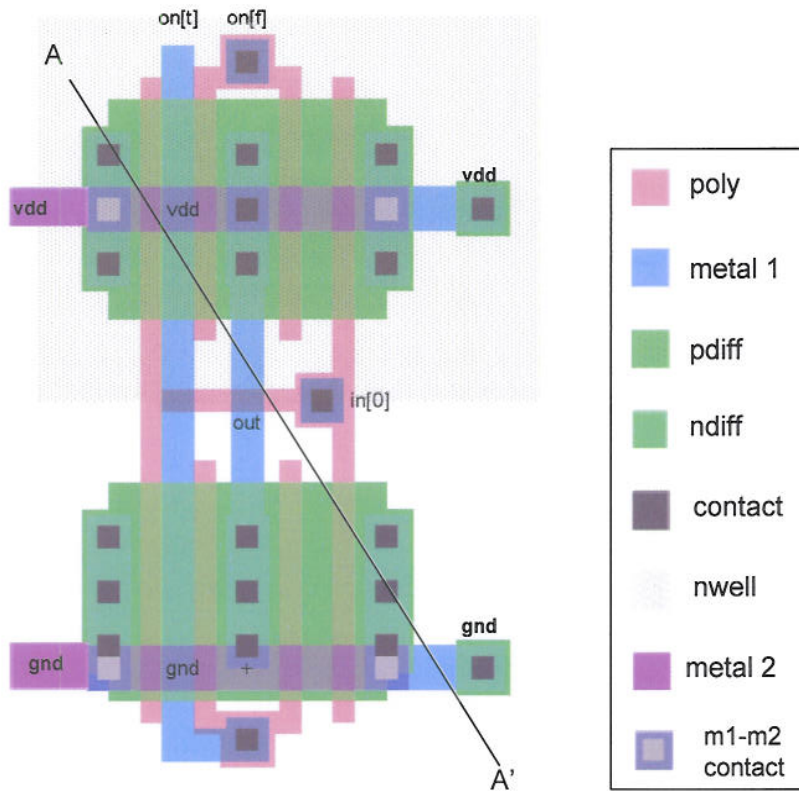

Figure 1.1 Layout of full-custom cell P for Question 1
1. a) *Figure 1.1* (see the colour supplementary sheet) shows the layout of an n-well CMOS circuit *P* with four terminals: *in[0]*, *on[t]*, *on[f]* and *out*. Extract and draw the transistor-level schematic diagram of this circuit. Note that *vdd* and *gnd* are routed on the metal 2 layer.
- d) For the layout shown in *Figure 1.1*, draw the vertical cross section along the line *AA'*. Label your diagram indicating the n-well region and the different types and levels of doping (e.g. p^- , n^+ etc).